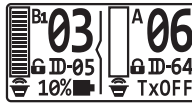

Fig. 32
2. TxOFF is shown when transmitter is powered off. Fig. 32